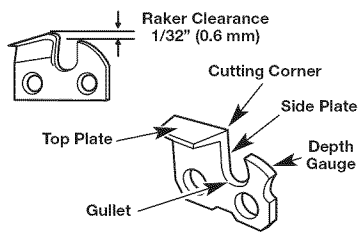

Fig. 40
- The depth gauge (or raker clearance) setting determines the height at which the cutter enters the wood and the size of the wood chip that is removed (Fig. 40). Too much clearance increases the potential for kickback. Too little clearance decreases the size of the wood chip, thus decreasing the chain's cutting ability.
- Maintain the depth gauge at a clearance of 1/32" (0.6 mm). Use a depth gauge tool for checking the depth gauge clearances. (Fig. 40)